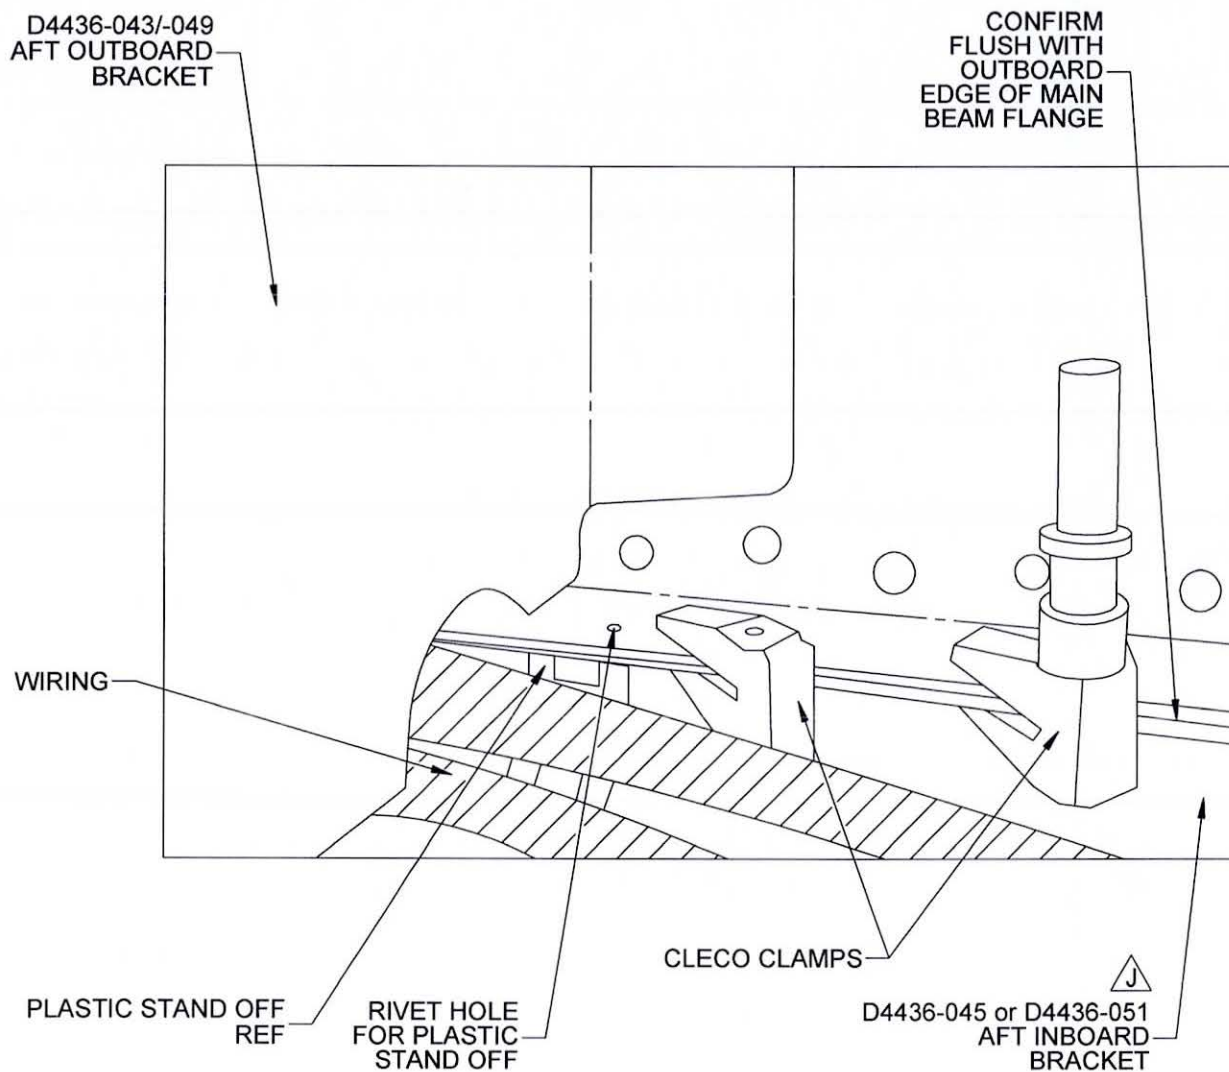
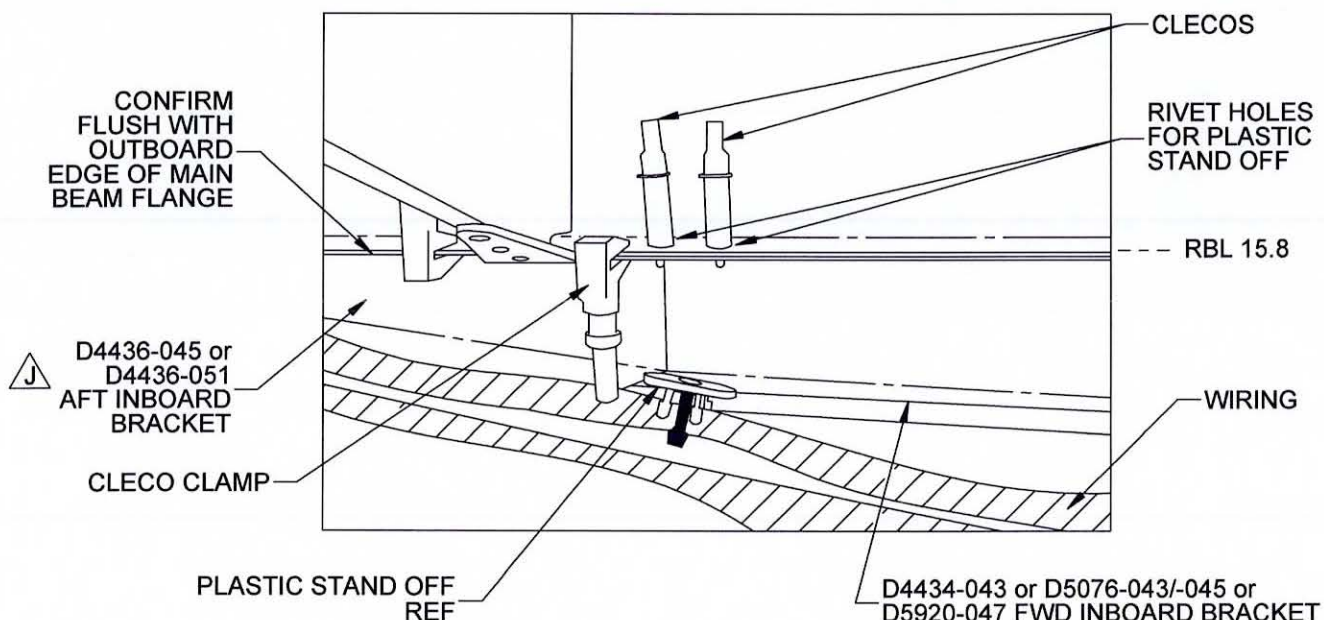

Figure 6. D4436-043/-049 and D4436-045/-051 Brackets Installation J
Figure 7. D4434-043 or D5076-043/-045 or D5920-047 & D4436-045/-051 Brackets Installation ⚠
- 4.6 Drill out rivets holding plastic wire bundle stand offs. Transfer drill $\varnothing 0.144$ holes to D4436-045/-051 Aft Inboard Bracket per Figure 6. Transfer drill 2 x $\varnothing 0.144$ holes to D4434-043 or D5076-043/-045 or D5920-047 Fwd Inboard Bracket per Figure 7. Transfer drill 2 x $\varnothing 0.144$ holes to D4434-043 or D5076-043/-045 or D5920-047 and D4436-045/-051 brackets are flush with outboard edge of main beam flange. Assemble D4436-045/-051 Aft Inboard Bracket and D4434-043 or D5076-043/-045 or D5920-047 Fwd Inboard Bracket and wire bundle stand offs to main beam flange using MS35206-229 screw, NAS1149FN616P washer and MS21042L06 nut.